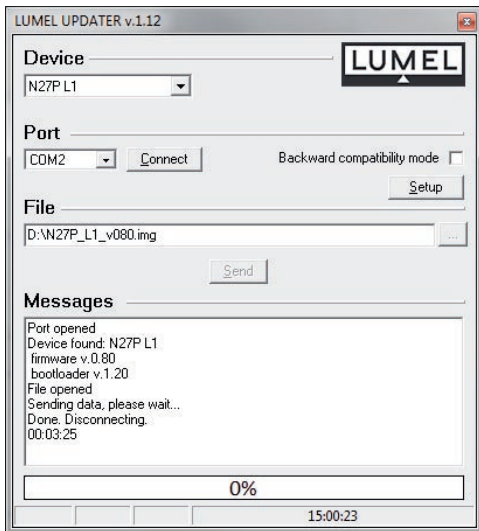

Figure 12. Main window of firmware updating software
Then, from the menu at the top of the application, select *Update Firmware*. Application LUMEL UPDATER (LU) will appear (Figure 12). In this application, select the correct serial port on which N27P meter is installed and press the *Connect* button. In the *Message* window actual infor-